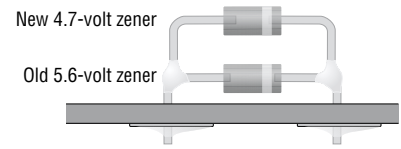

Figure 4. Solder a new zener diode "piggyback"-style onto each old one.
4. Locate zener diodes D107 and D110 on the channel 1 module (the upper circuit board). Bend and trim the leads of two new zener diodes and solder them piggyback-style to D107 and D110, oriented in the same direction (Figure 4).